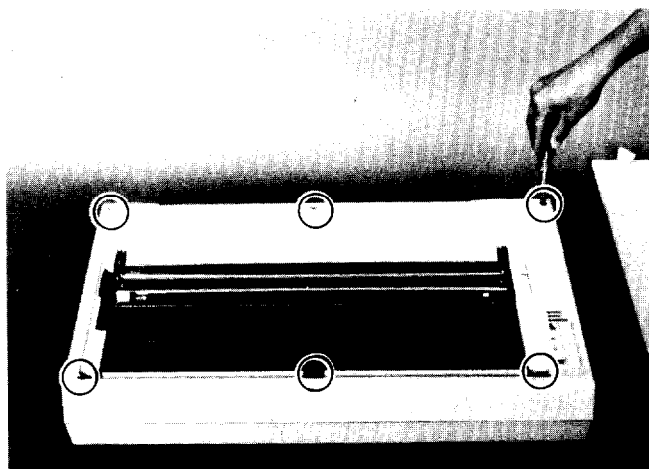

Fig. 4.1 Removal of upper case
4.3.1 Removal of upper case (Fig. 4.1)
- STEP 3: Remove 6 screws from the upper case. (Fig. 4.1)